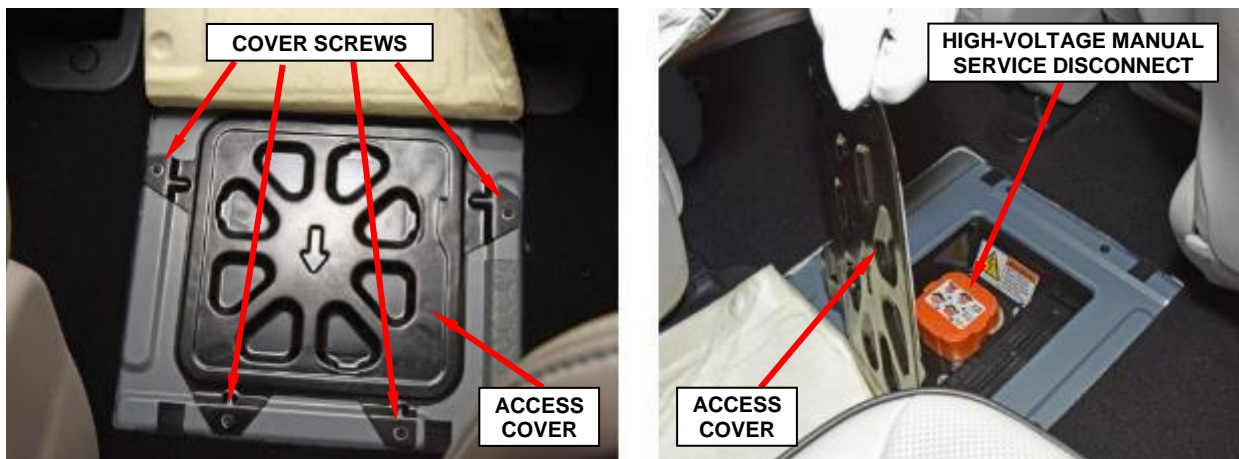

Figure 9 – High-Voltage Manual Service Disconnect Access Cover
16. Remove the four screws securing the high-voltage manual service disconnect access cover to the floor then remove the cover (Figure 9).